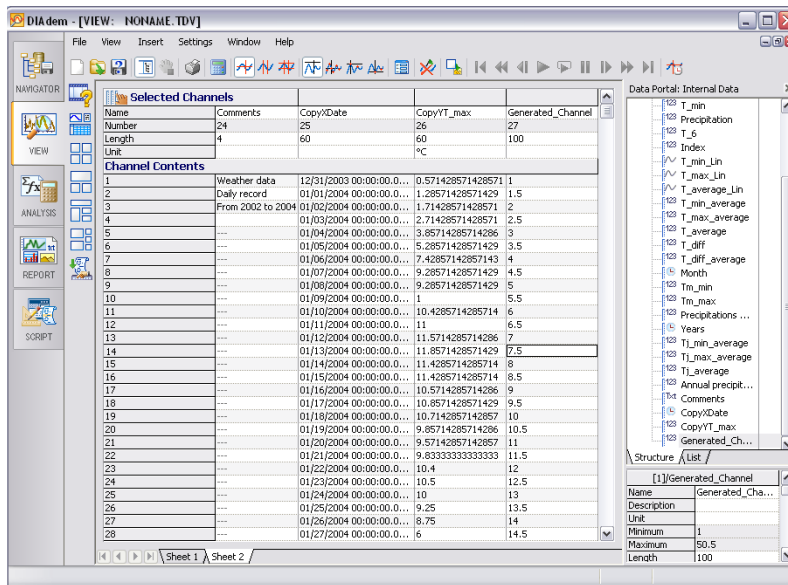

Figure 3-3. Editing and Generating Data in Channel Tables
- DIAdem displays the channel table as shown in Figure 3-3.